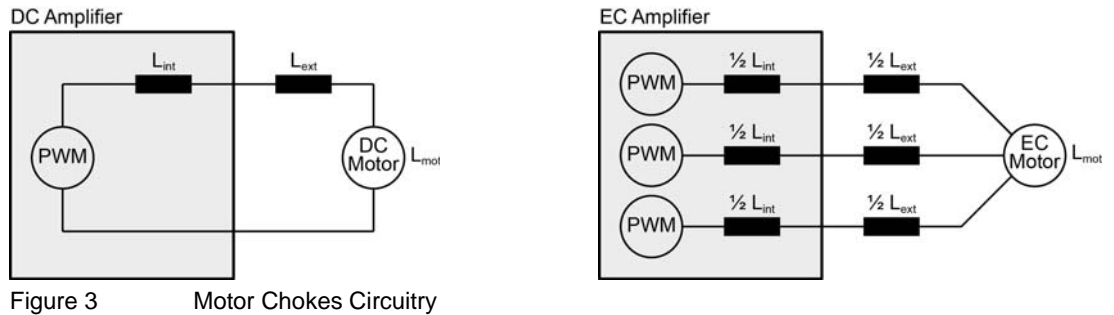

Figure 3 Motor Chokes Circuitry
- $L_{int}$  Internal inductance of controller [H] (for details on circuitry → Figure 3)